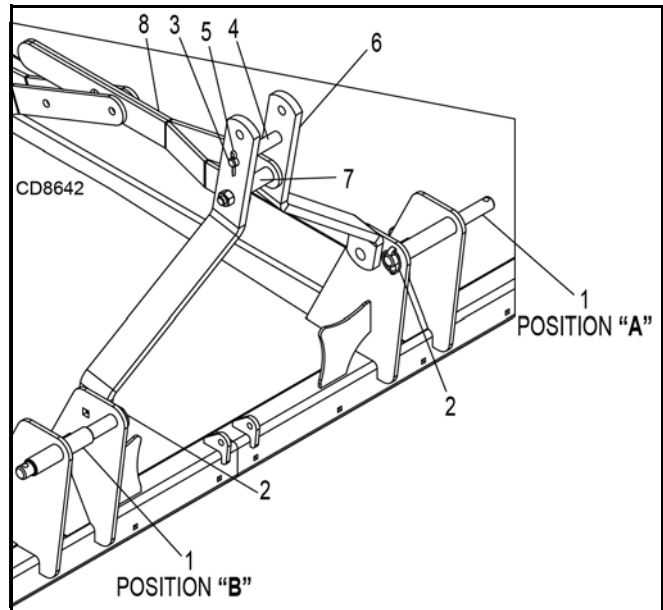

Figure 3. DS10.40 Standard and Quick Hitch Connection
2. Insert lower hitch pins (1) to Position B, Figure 3, through mast plates and tractor lower lift arms.
3. Secure with klik pins (2).
4. Connect the tractor top link to the cutter A-frame using the middle holes and 3/4" pin (3), 1" OD sleeve (4), cotter pin (5), and 1/4" klik pin (6).
2. Insert lower hitch pins (1) to Position A, Figure 3.
4. Connect the tractor top link to the cutter A-frame using top holes and 3/4" pin (3), 1-1/4" OD sleeve (not shown), cotter pin (5), and 1/4" klik pin (6).
1. Position lower hitch pins (1) to Position A, Figure 3.
2. The upper hook on the quick hitch will engage the 1-1/4" sleeve (7) between break links (8) as shown for Category 2. Break links and sleeve will need to